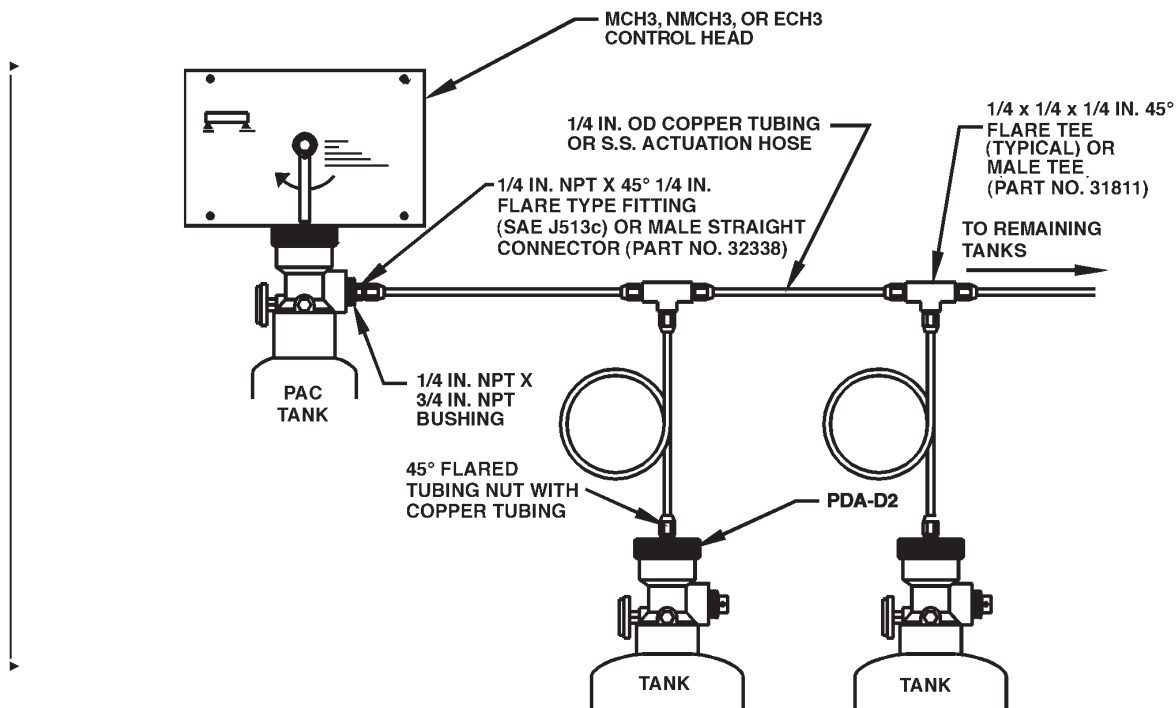

Figure 4-5. Multiple Cylinder Actuation Using Model PAC-10 or PAC-200
▶ used with stainless steel actuation hose. Also, a Model PDA-D2 Pneumatic Discharge Adaptor must be installed on the valve of each agent cylinder. Pneumatic tubing is then used to connect the PAC-10/200 pneumatic cylinder to the PDA-D2 of each agent cylinder valve. **See Figure 4-5.**